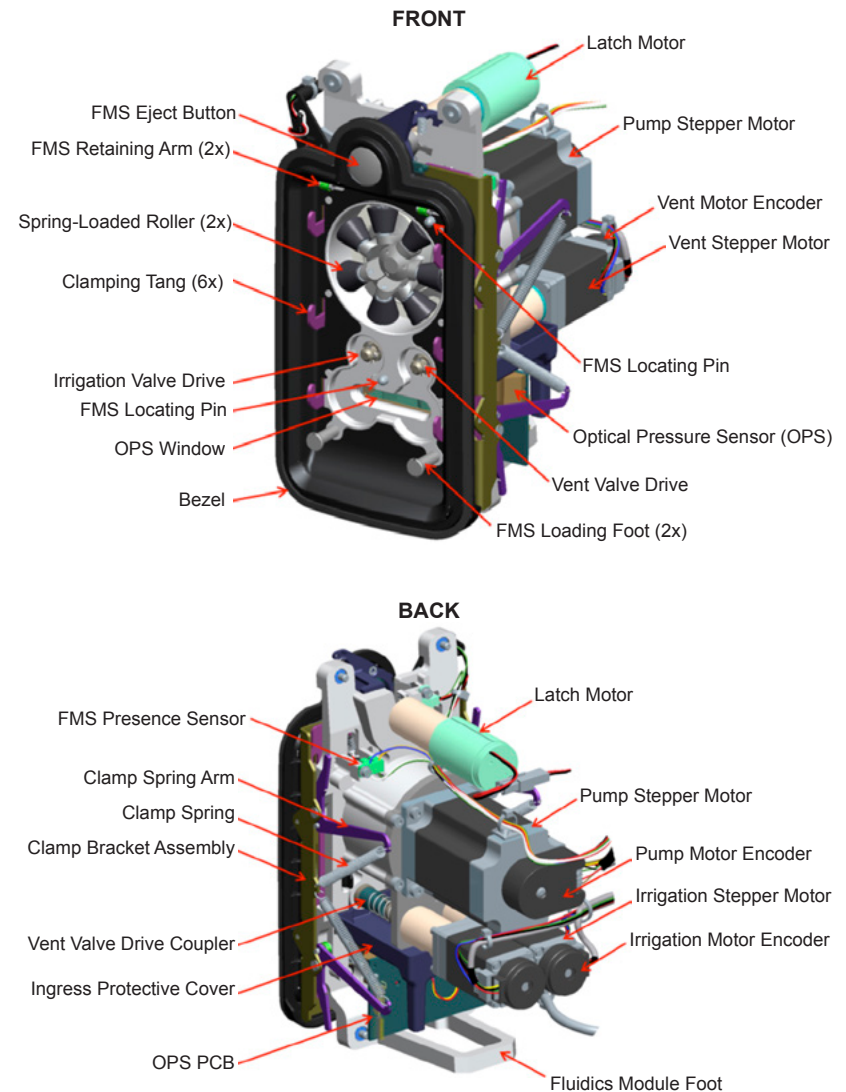

Figure 2-10 Fluidics Module Component Location
- 7.6 **Fluidics Module** - The fluidics module interfaces with the consumable FMS and provides fluidic control functionality. Module components are shown in Figure 2-10.